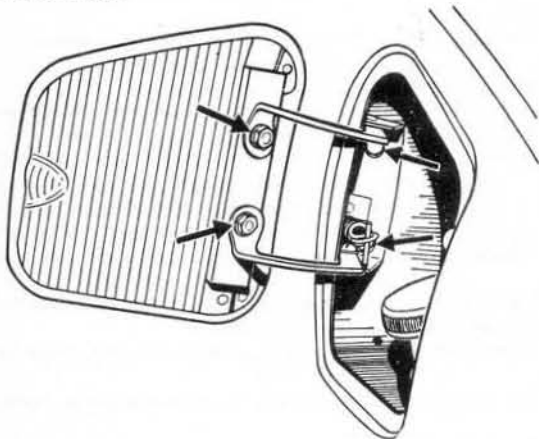

Fig.12.28. Attachment points for the petrol filler lid and hinge
- 1 The petrol filler lid assembly is shown in Fig.12.28.